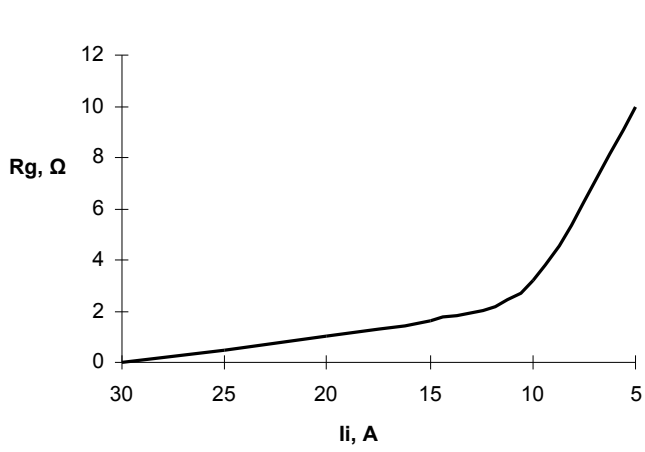

Figure 7 – Dependence of output pulse current on the gate resistor nominal
- set up output pulse current by resistor Rg on(off) in compliance with Figure 7.